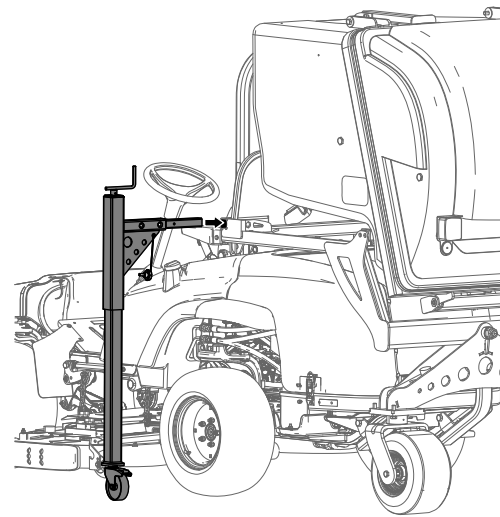

Figure 14
2. Slide the bar on the parking stand into the hole on the frame and secure it with a bolt (Figure 14).